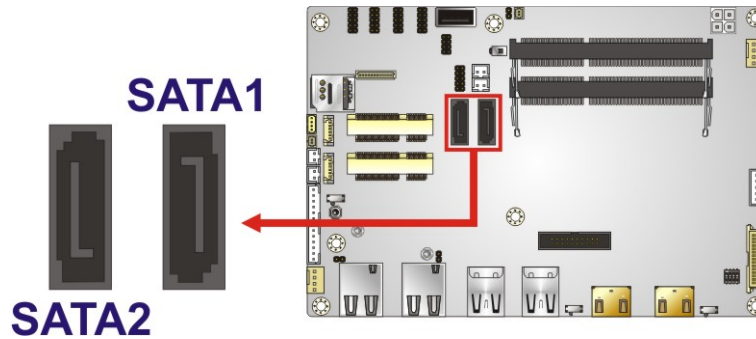

Figure 3-21: SATA 6Gb/s Drive Connectors Locations
- CN Location:** See **Figure 3-21**